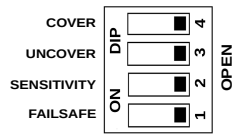

Figure 7: DIP Switch
1. Ensure that all DIP switches are in OPEN position as shown in Figure 7. Make sure that STATUS LED is not blinking for Error.
- Ensure that all DIP switches are in OPEN position as shown in Figure 7. Make sure that STATUS LED is not blinking for Error.